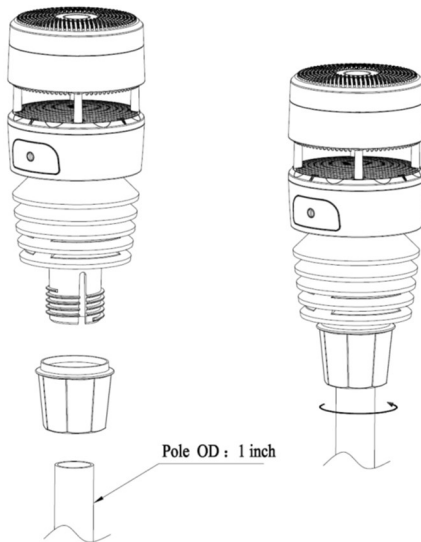

Figure 4: Sensor mounting diagram
2. Mounting on a pole as Figure 4. Make sure the mounting pole is vertical, or very close to it. Use a level as needed.